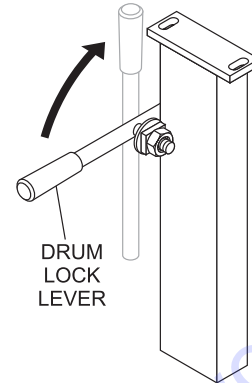

Figure 21. Drum Lock Lever
5. Manual dump machines only: When mixing plaster or mortar, the **drum lock lever** (Figure 21) should be in the **horizontal (down)** position. (Does not apply to hydraulic dump mixers.)